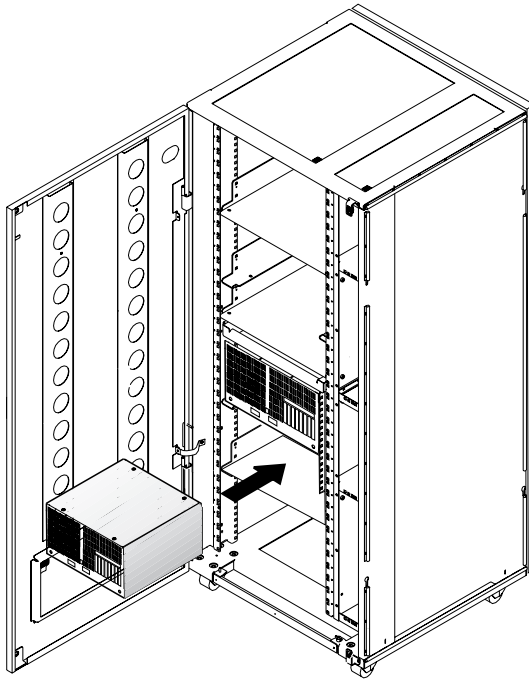

Figure 1-22. Installing the 3172 NNP-B Unit in the Controller Expansion (Rear Side)
2. \_\_\_\_ Slide the network node processor unit in the controller expansion from the rear side as shown in Figure 1-22. Refer also to Appendix B, "Controller Expansion Component Locations" on page B-1.